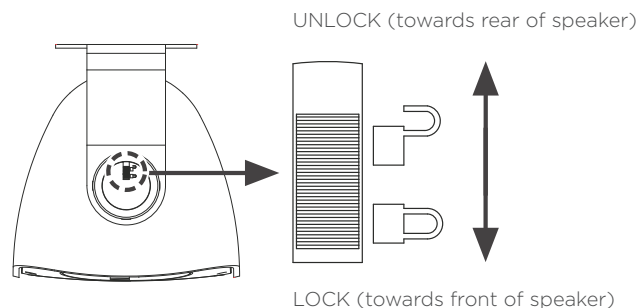

Figure 11: Lock and Unlock Slide Locks to Pivot Speaker
1. Unlock the slide locks on the speaker pivots by moving them towards the rear of the speaker as indicated by the unlock symbol (see figure 11).
3. Lock the slide locks by moving them towards the front of the speaker as indicated by the lock symbol (see figure 11).